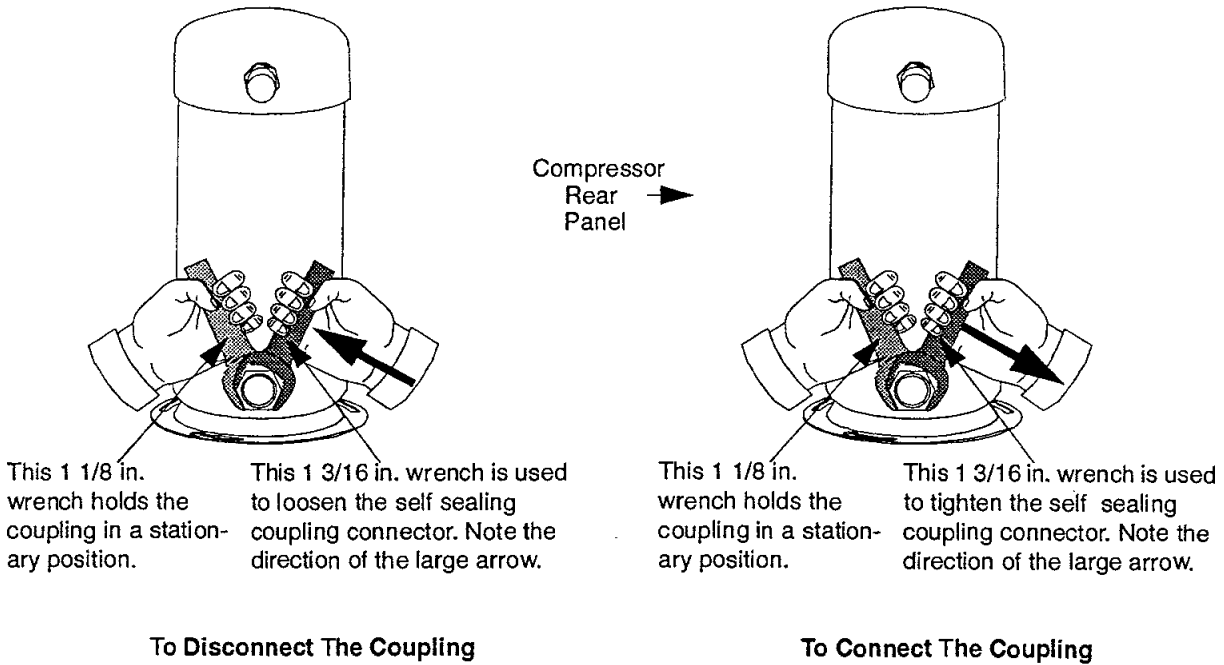

Figure 4-1: Disconnecting/Connecting the Adsorber Self-Sealing Coupling
6. Unscrew the two self-sealing coupling halves quickly to minimize gas leakage as shown in Figure 4-1.
7. Disconnect the adsorber-inlet self-sealing coupling as shown in Figure 4-1.
2. Connect the adsorber to the compressor internal piping. Refer to Figure 4-1.
Make sure to hold fast on the left coupling nut while tightening the right coupling nut, as shown in Figure 4-1.
- b. Make the first turns by hand and then firmly seal the connection using the two wrenches until the fittings "bottom". Refer to Figure 4-1, for proper coupling of the self-sealing connection